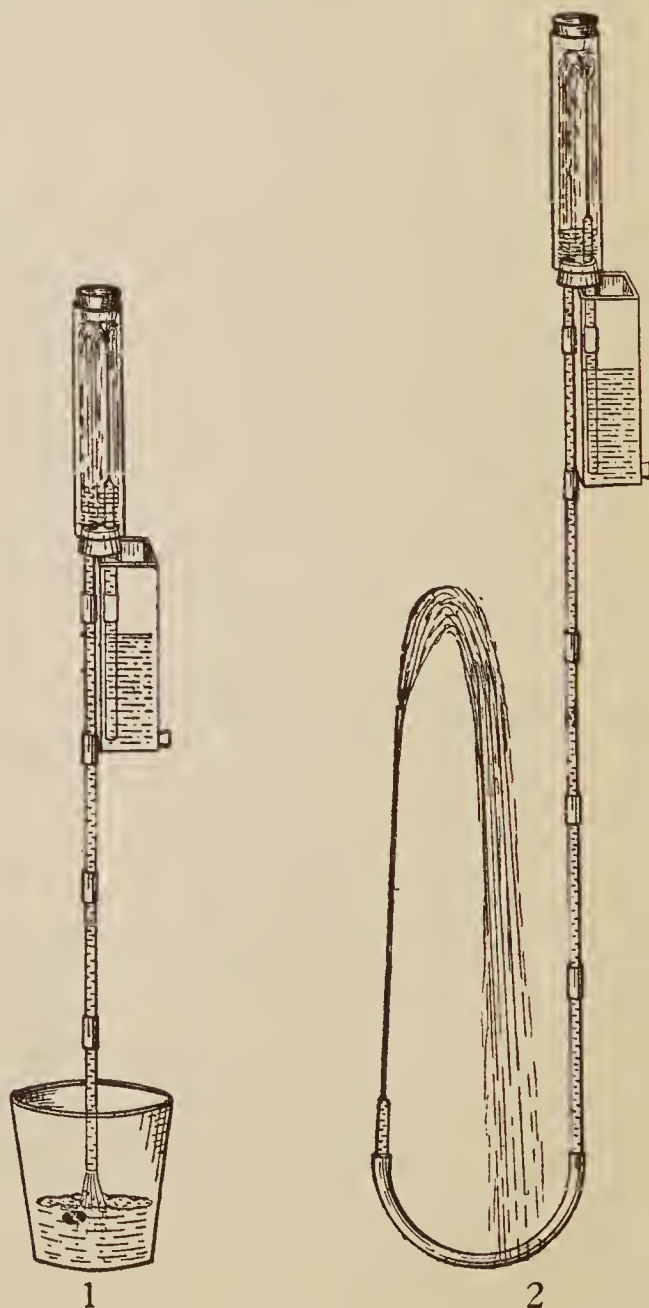

Fig. 50
Is there a fountain in the bottle? Repeat both of these experiments but use instead of the bottle, a wide glass tube closed at the top with a solid rubber stopper, (1) Fig. 50.
Make two fountains as shown in (2) Fig. 50, one enclosed and one in the open.